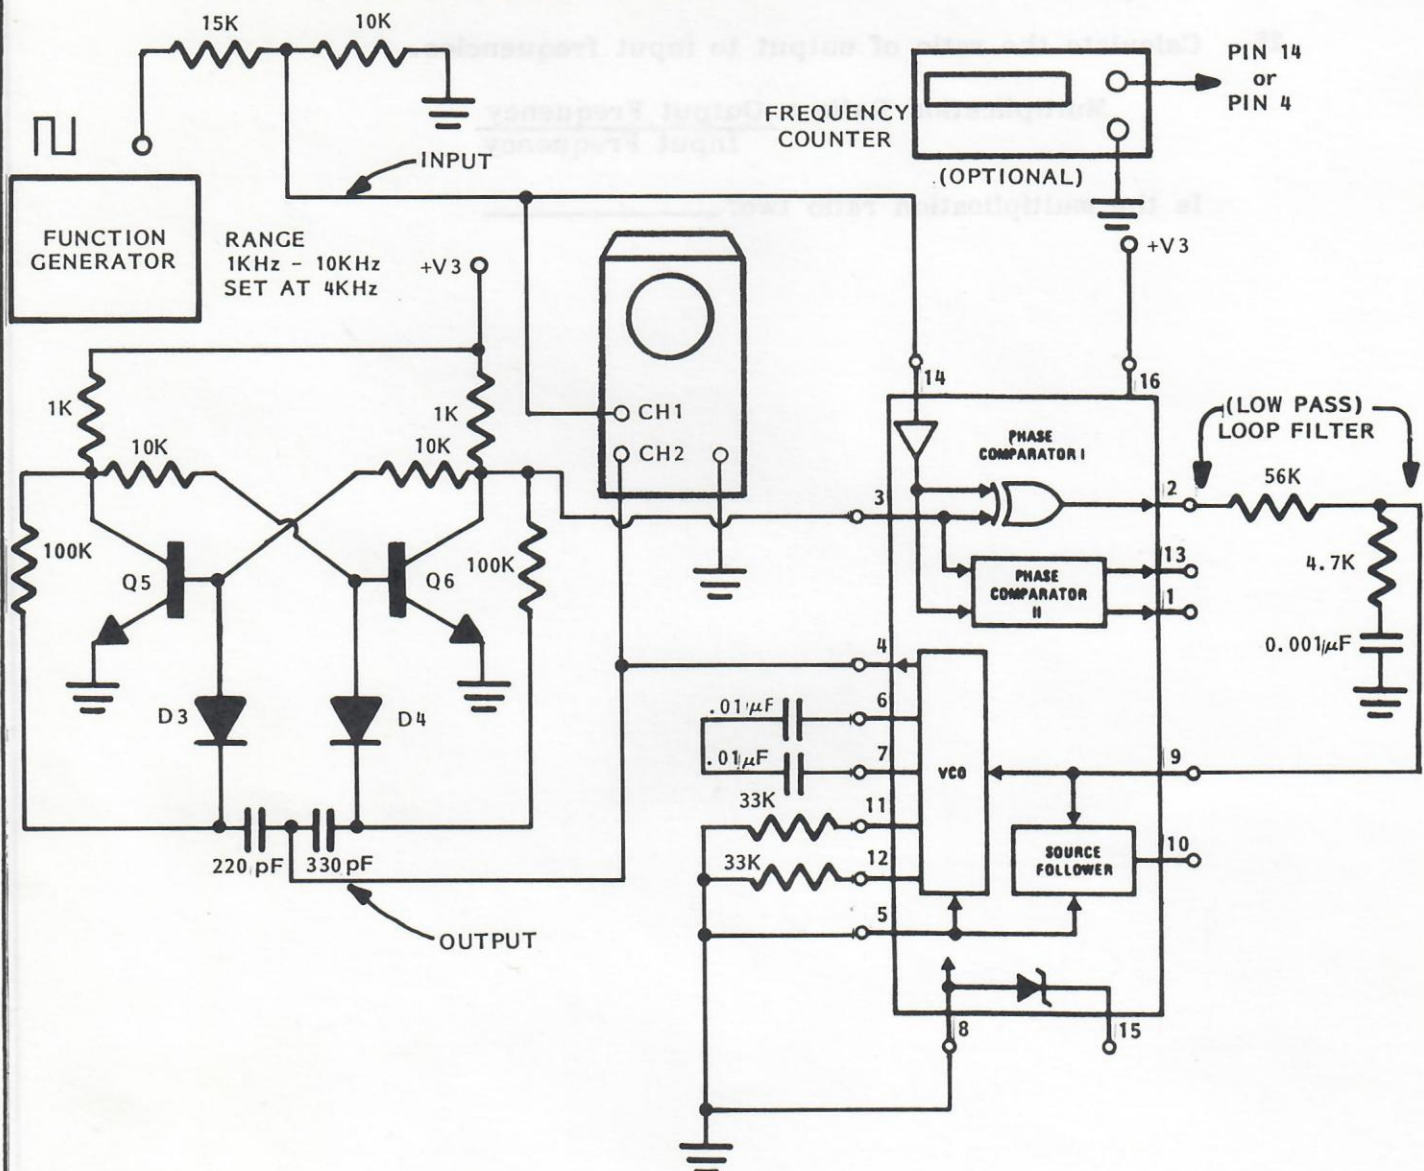

FIGURE 9 - A PLL BASED FREQUENCY DOUBLER.
22. Insert the Flip-Flop into the feedback path of the PLL as shown in Figure 9.